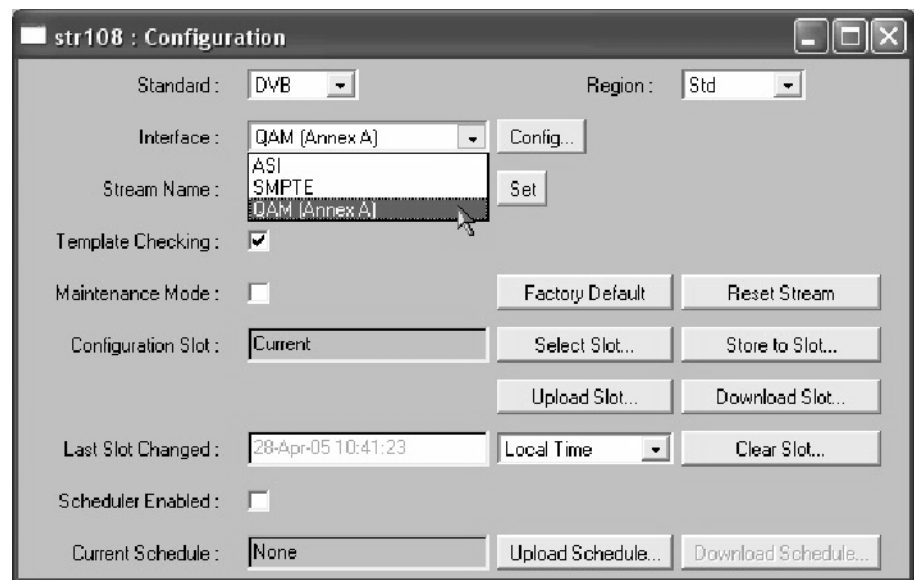

Figure 26: Selecting the interface
3. On the Stream Configuration screen, select the desired interface from the Interface drop-down list. Figure 26 shows the QAM (Annex A) interface being selected.